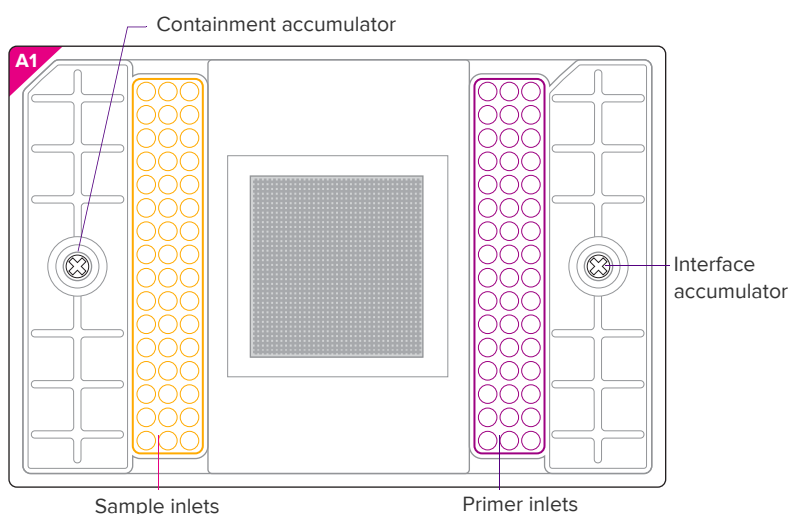

Figure 11. Access Array 48.48 IFC overview
- 1 Inject control line fluid into each accumulator on the IFC. Refer to the Fluidigm Control Line Fluid Loading Procedure Quick Reference (PN 68000132) and see [Figure 11 on page 51.]
- 2 Add 500 µL of 1X Access Array Harvest Solution (Fluidigm, PN 100-1031) into the H1–H3 wells on the IFC. (See Figure 11 on page 51.)
- 3 Add 500 μL of 1X Access Array Hydration Reagent v2 (blue cap, Fluidigm, PN 100-7966) to the H4 well. (See Figure 11.)